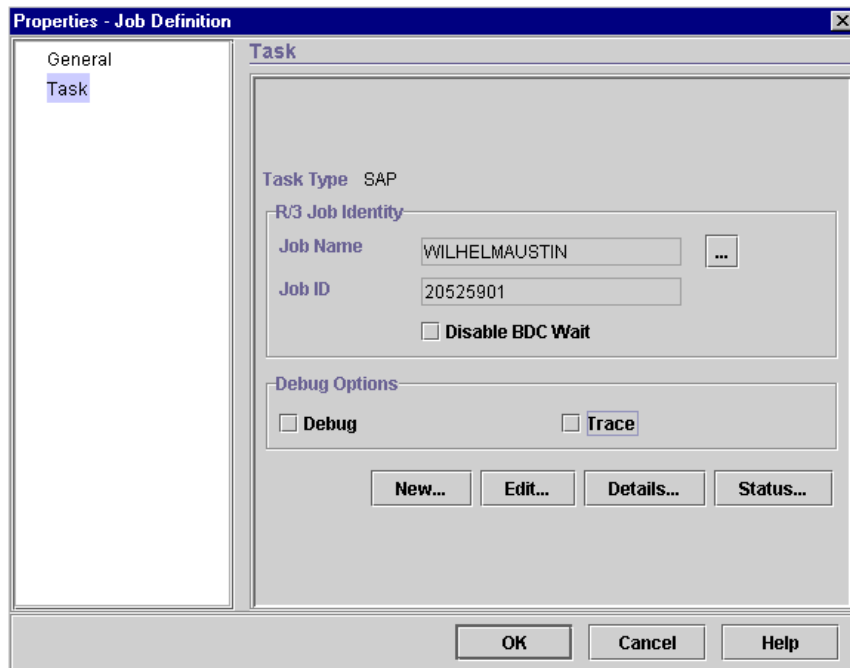

Figure 113. Job Definition Window (Job-ID after saving to R/3 database)
This is shown in Figure 113 on page 189.
8. Click the **OK** button in the Properties - Job Definition window, shown in Figure 113, to save the job definition to the Tivoli Workload Scheduler database.